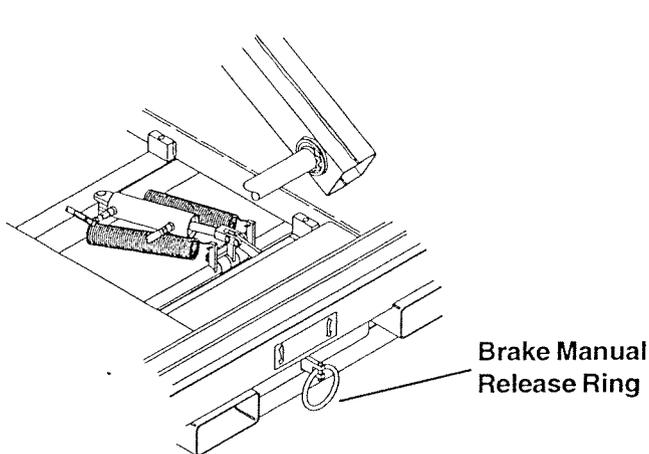

FIG. 1-12 Brake Locked
- a. Release tension from brake rod by pulling the brake manual release ring out or by activating drive and lifting the bar until the bar locks in the base (Figure 1-12).